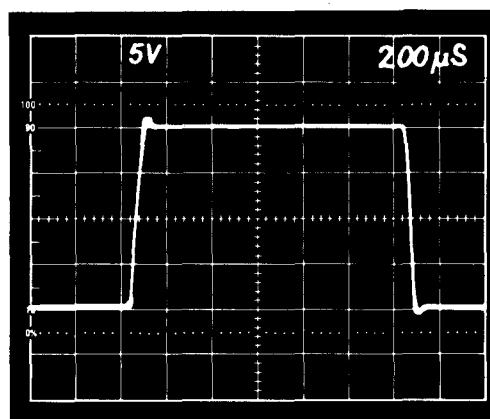

Figure 7. Dynamic Response of the AD203SN (20 V p-p Step)
**Dynamic Response of the AD203SN.** To illustrate the speed, dynamic range and rapid settling time of the AD203SN, the isolator's output response to a 20 V p-p step function is shown in Figure 7.